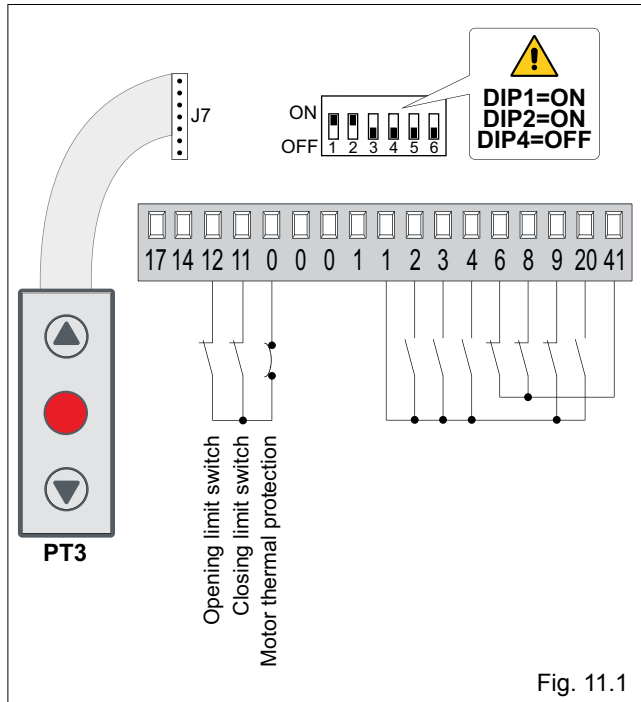
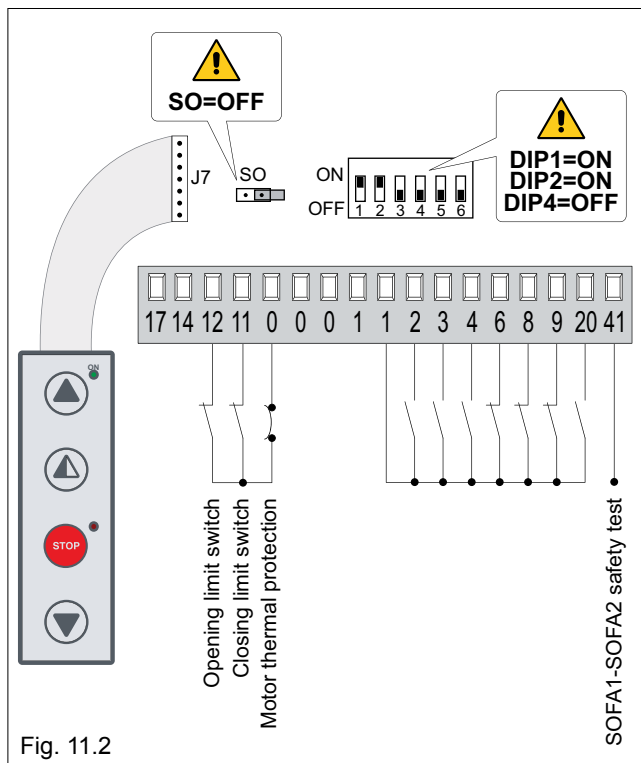

Fig. 11.1
Fig. 11.2
(Fig. 11.1) When the control panel is used in applications for sectional overhead doors:
(Fig. 11.2) If the SOFA1-SOFA2 self-controlled safety edge is connected on closing, make the connections indicated in the figure.
**i** **NOTE:** membrane push-button panels PT3 (fig. 11.1) or PT4 (fig. 11.2) can be connected to the connector J7.